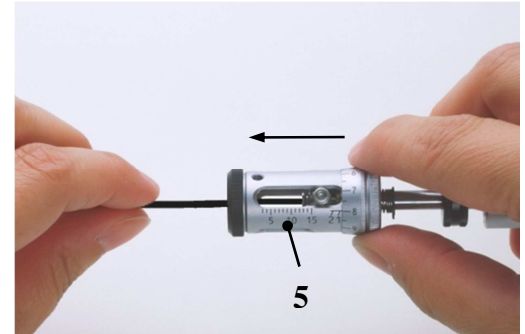

Fig. 6 Close the blades
- Slowly release the stripping head (5). The blades will close up to the outer diameter of the cable. (Fig. 6)